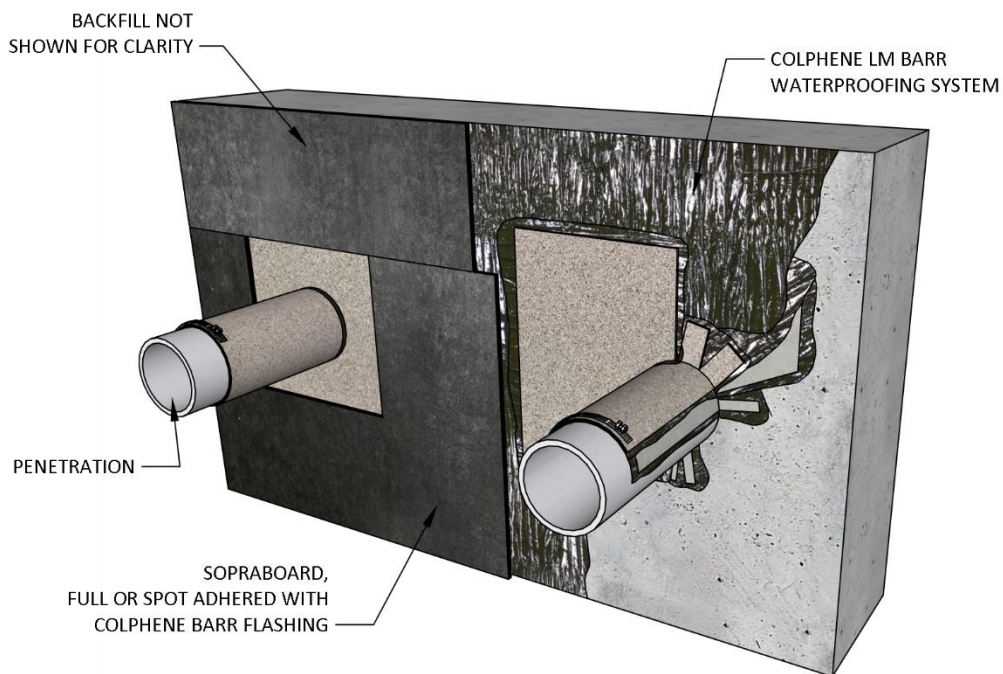
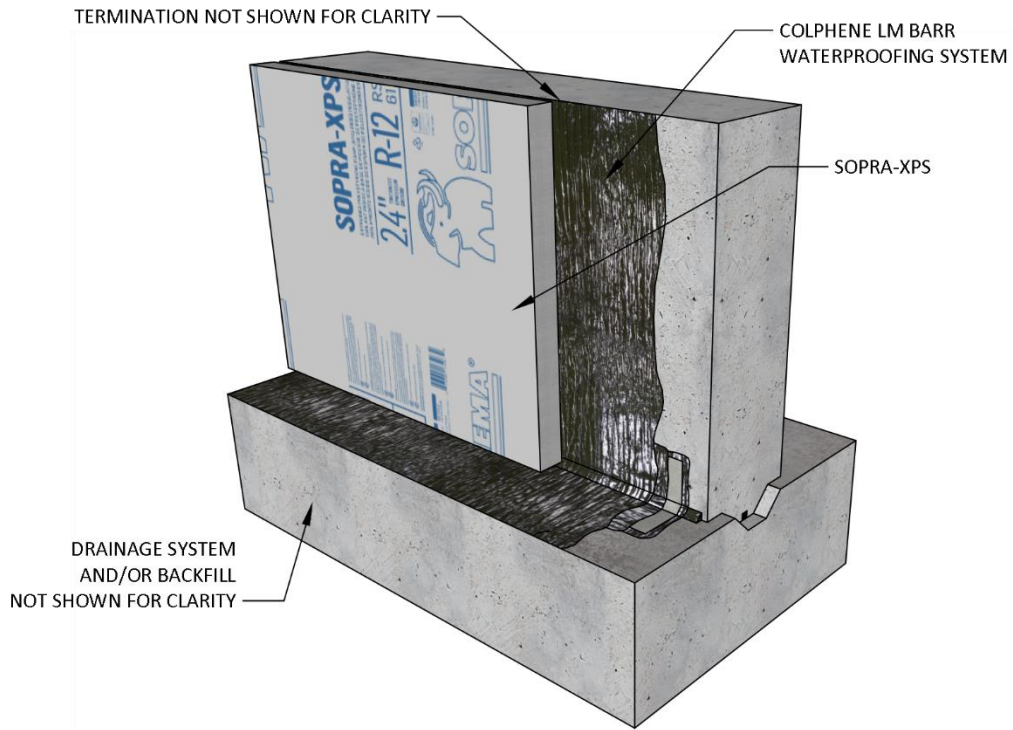

Figure 3.1d SOPRABOARD™ At Penetrations
Figure 3.1i SOPRA-XPS At Transitions
- Before installing the drainage mat, unroll the mat and cut the material to conform to foundation wall conditions. Refer to Figure 3.1d, Figure 3.1i, and Figure 3.1n.